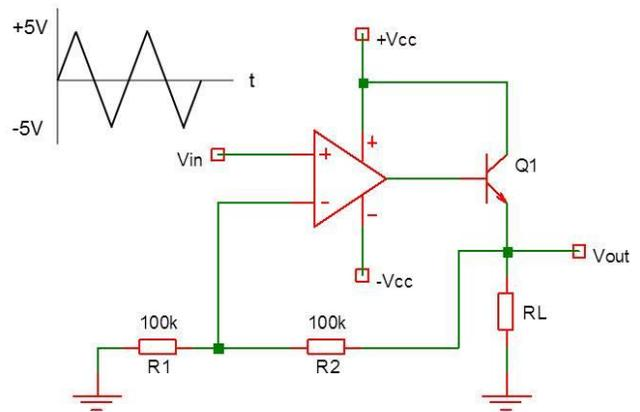

Fig. 2:  $V_{IN}$  is a triangle wave.
- 2) Consider the current booster shown in Fig.2. The input is a  $10V_{PP}$  triangle wave and the load is  $R_L = 100$  ohm. Assume an ideal op amp with  $\pm V_{CC} = \pm 15$ V. The transistor has  $V_{BE,ON} = 0.7$ V and  $\beta = 100$ .